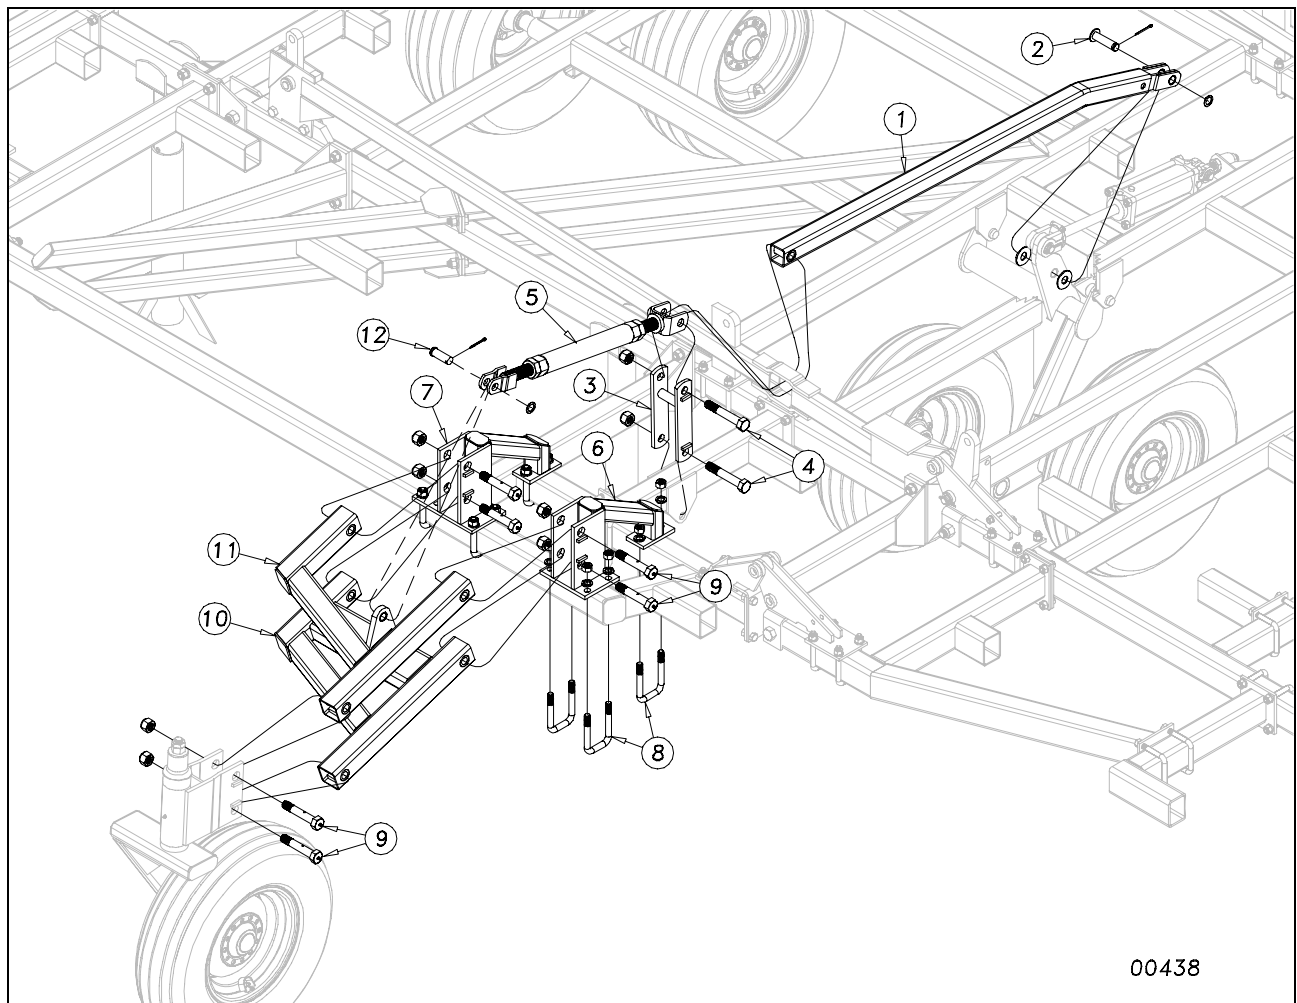

Figure 8
Insert the wing level bar (1) through the hole in the rocker fold bracket as shown in Figure 8. Attach the wing level bar (1) to the wheel bracket with a 1 x 3 3/8 usable clevis pin (2), 1" flat washers, 1" machine washer and 3/16 x 2 cotter pin. Slide the leveling link (3) over the leveling link mounting tube and attach with a 1 x 6 special thread GR 8 hex bolt (4) and nylon lock nut, **do not torque**. Bolt the gauge wheel level bar (1) to the turnbuckle assembly (5) through the leveling link (3) as shown. Use a 1 x 6 Gr.8 special thread hex bolt (4) and nylon lock nut. **Do not torque** as before.